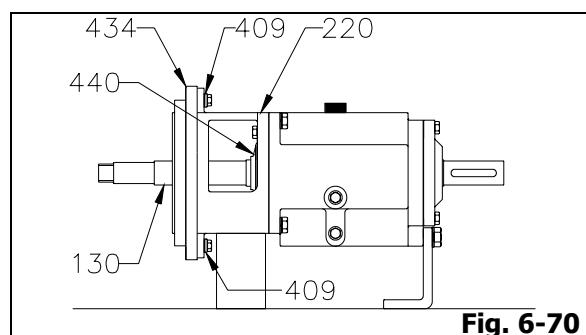

Fig. 6-70
2. Install frame adapter gasket (434), all connection plugs (409) or/and piping adaptors into frame adaptor (220).
3. Install deflector (440) to shaft (130) (Fig. 6-70).